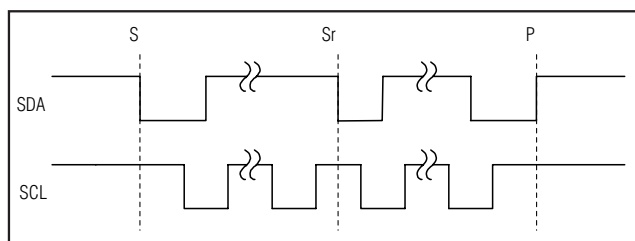

Figure 5. START and STOP Conditions
The master initiates a transmission with a START condition (S), a high-to-low transition on SDA while SCL is high. The master terminates a transmission with a STOP condition (P), a low-to-high transition on SDA while SCL is high (Figure 5). A repeated START condition (Sr) can be used in place of a STOP condition to leave the bus active and the interface mode unchanged (see HS mode).